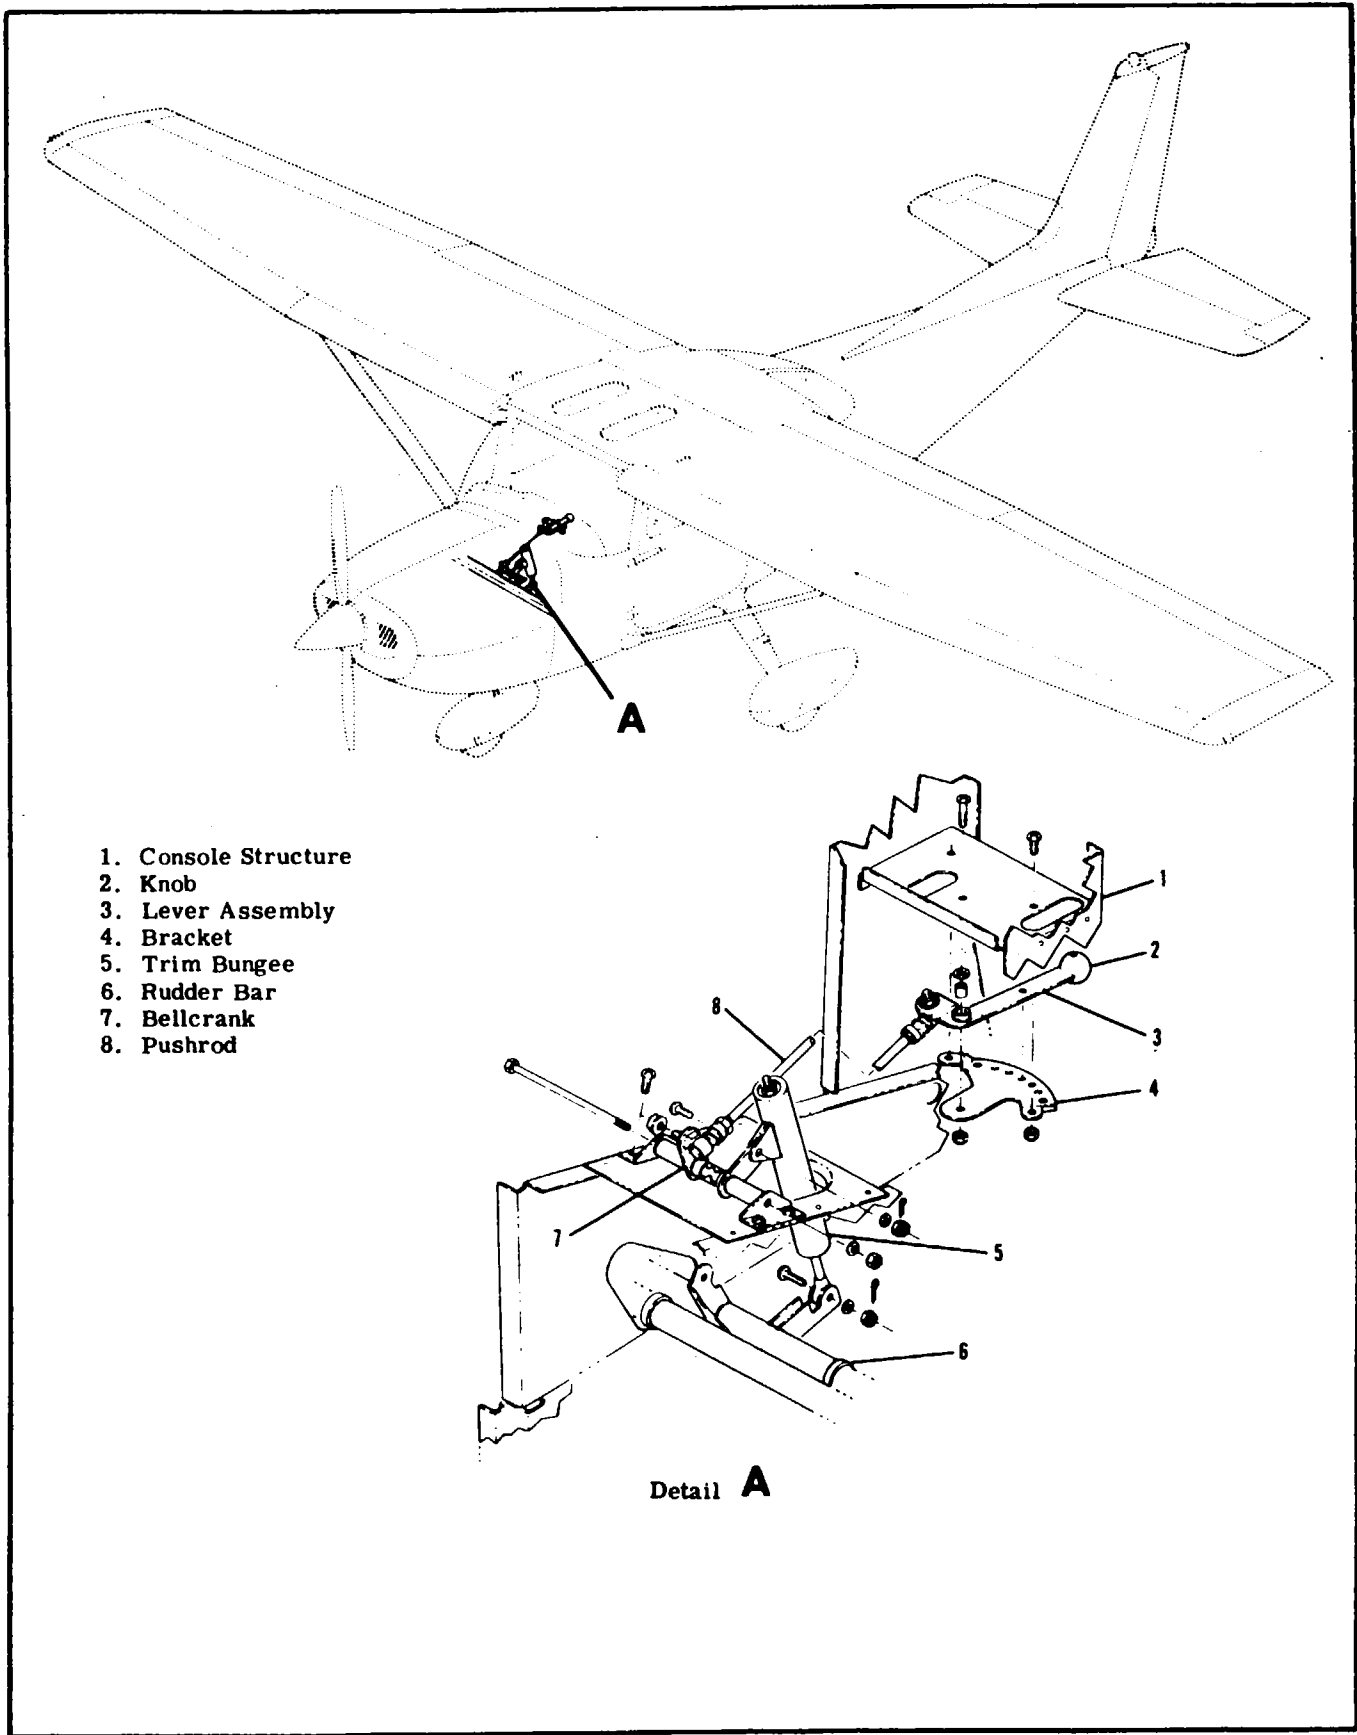

Figure 10-5. Rudder Trim Control System
10-12. RUDDER TRIM CONTROL SYSTEM. (See figure 10-5.)
10-14. RIGGING. (See figure 10-5.)
d. Install bungee (5) between rudder bar (6) and bellcrank (7) as shown in fig 10-5, detail A.
e. Make sure lever assembly (3) is in neutral position or center hole of bracket (4).
f. Adjust ball ends of push rod (8) so that ball end studs align with holes in bellcrank (7) and lever assembly (3) and install push rod.